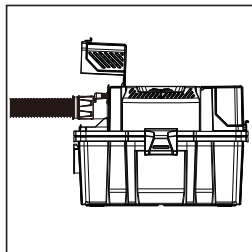

FIG. 7
- Insert one end of the hose into the blowing port. (Fig. 7)